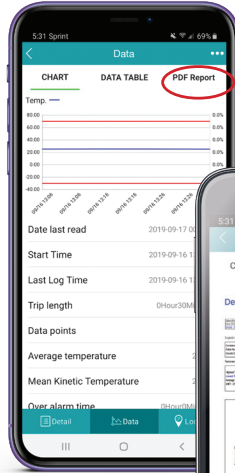

Figure 6
- A. Select PDF Report (Figure 6).